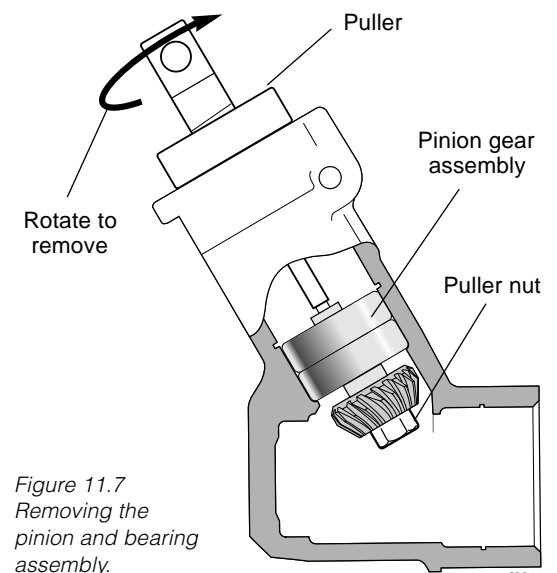

Figure 11.7 Removing the pinion and bearing assembly.
STEP 3. Assemble the puller to the gearcase and pinion (Figure 11.7), then rotate the puller bolt to remove the pinion and bearing assembly.